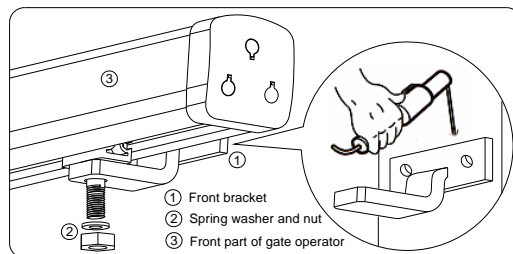
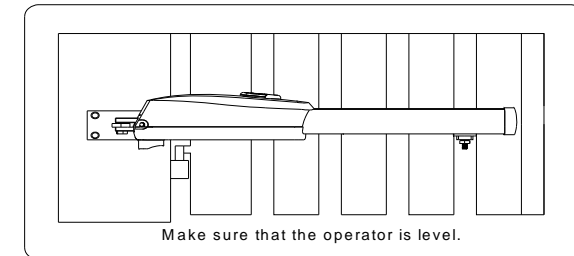

Fig.7
Fig. 8
- Release the gate operator, with the gate in open position, tack weld the gate bracket on the gate, and use a level to check the flatness of the operator. See Fig.7 and Fig.8. The bracket installation should meet the specifications as shown in figure 1-2.